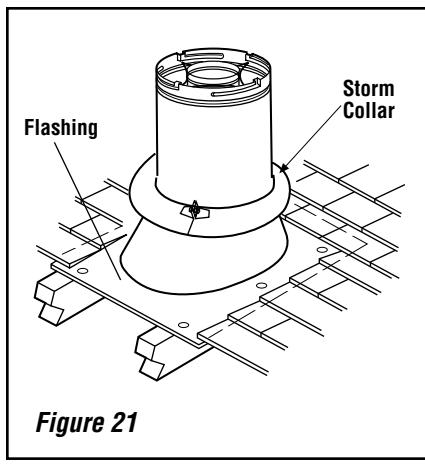

Figure 21
I. Install the roof flashing—Extend the vent sections through the roof structure. Install the roof flashing over the vent section and position such that the vent column rises vertically (use carpenter's level) (**Figure 21**). Nail along perimeter to secure flashing or adjust roofing to overlap the flashing edges at top and sides only and trim where necessary. Seal the top and both sides of the flashing with waterproof caulking.
J. Install the storm collar—Install the storm collar, supplied with the vertical termination, over the vent/flashing joint (see **Figure 21**). Secure the storm collar in place on top of the flashing by sliding the tab through the mating slot and folding over. Apply non-combustible caulking or mastic around the circumference of the joint to provide a water tight seal.